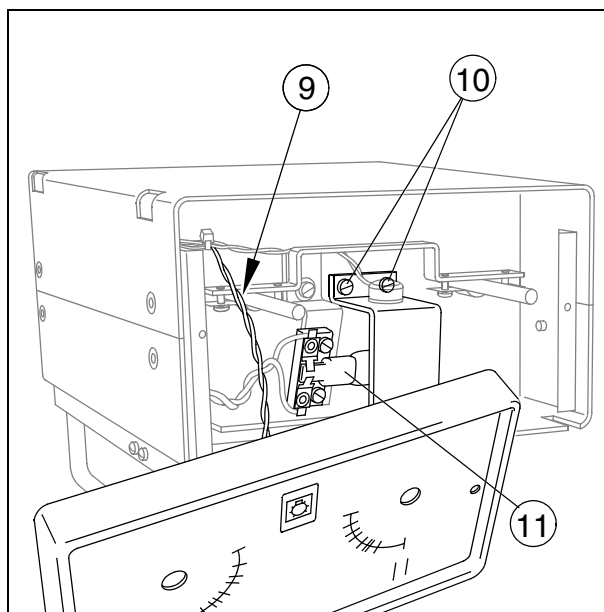

Fig. 7
Caution : The front panel is connected to the collimator via a cable (9/Fig. 7).
Caution: The front panel is connected to the collimator via a cable (9/Fig.7).
- Remove both screws (10/Fig.7) and take off the metal bracket for the temperature switch).
- Take out the defective lamp (11/Fig. 7) and replace it with a new lamp.